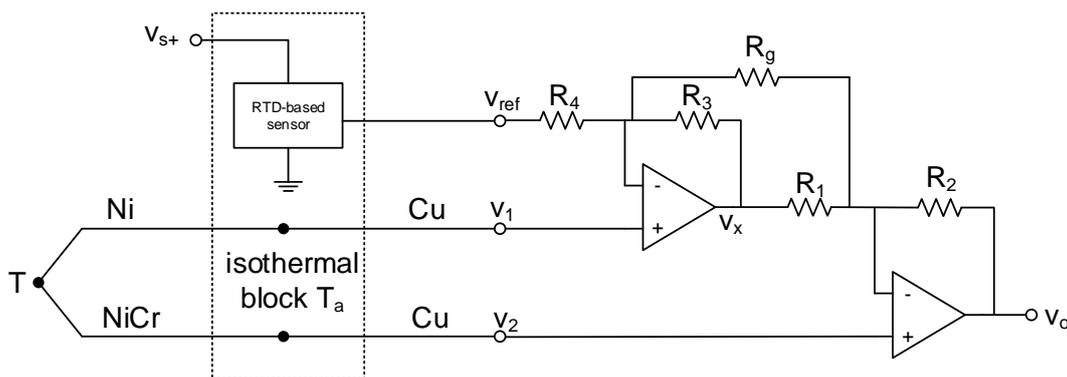
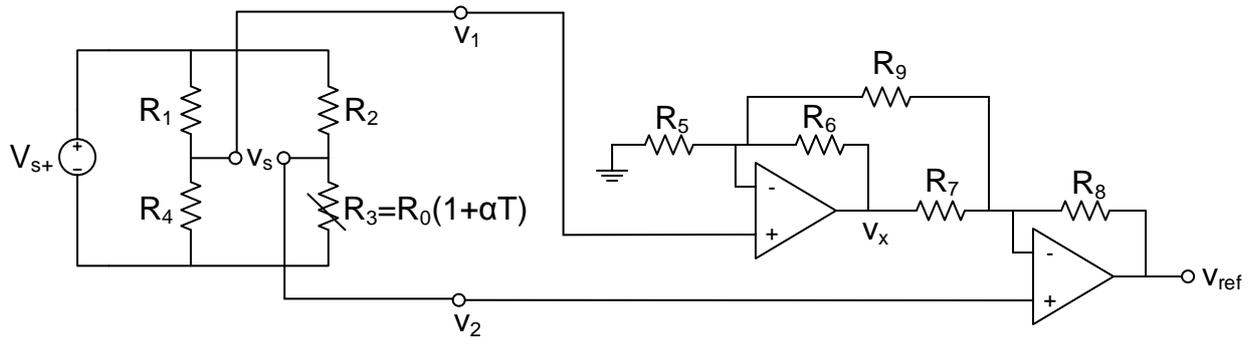

Figure 1: Compensation with a RTD-based sensor and instrumentation amplifier.
Figure 2: Implementation of “RTD-based sensor” block of Figure 1.
- (5p) (d) The thermocouple sensor is connected in the sensing circuit as shown in Figure 1. This circuit contains a reference junction compensation based on a RTD temperature sensor. The output voltage of this sensor (v_{ref}) is given by the following transfer function: $v_{ref} = 5\text{mV}/^\circ\text{C} \cdot T_a$ with T_a the ambient temperature at the reference junction. The output of the reference temperature sensor is connected to the reference input of the instrumentation amplifier. It holds for this instrumentation amplifier:
There are three important law that you can use when analysing thermocouples, namely the law of the homogeneous circuits, the law of intermediate metals, and the law of intermediate temperatures. Show using these laws that the voltage across the thermocouple shown in Figure 1 is equal to:
- (5p) (f) The circuit shown in Figure 2 is used to generate the reference voltage v_{ref} for the thermocouple sensor shown in Figure 1. In other words, Figure 2 shows the internals of the block “RTD-based sensor” in Figure 1. Assume that the supply voltage v_{s+} is equal to 5 V. Assume further that resistor R_3 is a temperature dependent resistor (RTD) of type PT100. Its relation between temperature and resistance (transfer function) can be approximated with the following linear equation: $R_3(T) = R_0(1 + \alpha T)$, with R_0 equal to 100Ω and $\alpha = 0.004/^\circ\text{C}$. Assume also that $R_4 = R_5 = R_6 = R_7 = R_8 = R_9 = R_0$ and $R_1 = R_2 = k \cdot R_0$. What resistance should the resistor R_2 have to ensure that the “RTD-based sensor” has a sensitivity of $5\text{mV}/^\circ\text{C}$?